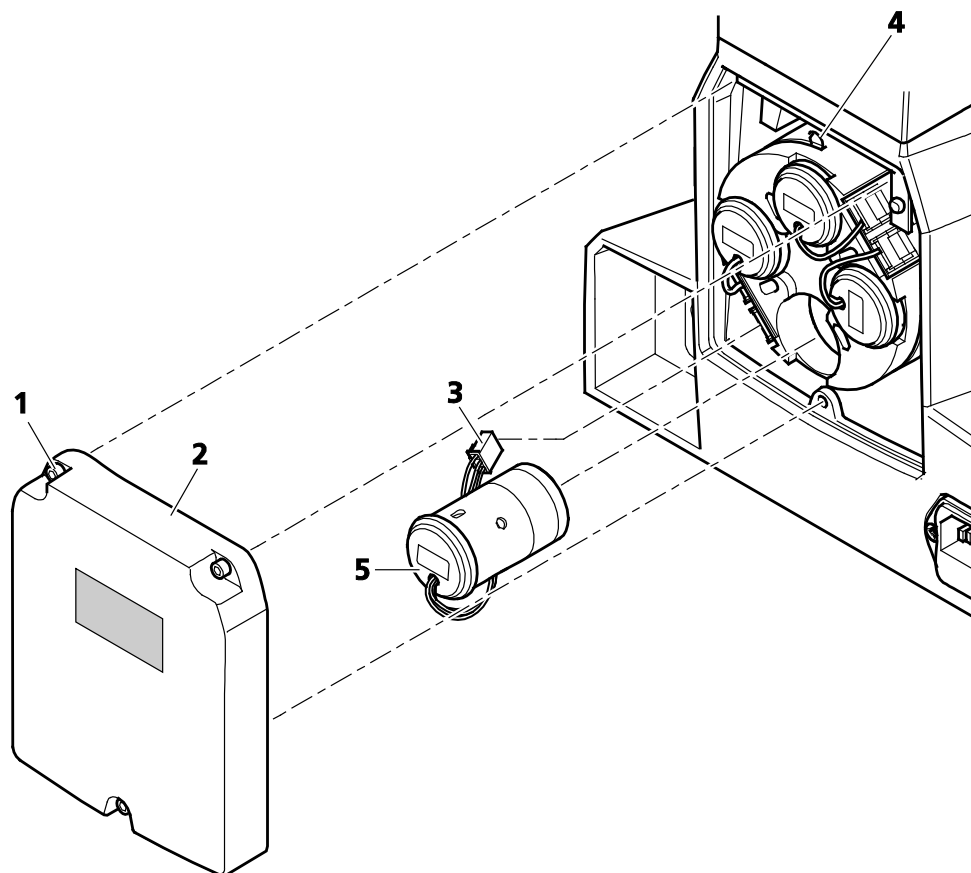

Fig. 3-35 Changing the LED Module in the Axio Vert.A1 FL-LED Stand
- Use ball-headed screwdriver SW 3 to loosen the three screws (Fig. 3-35/1) on the protective cover (Fig. 3-35/2). Take off the cover.
- Press the locking lever on the plug and pull out of the socket the plug (Fig. 3-35/3) of the LED module (Fig. 3-35/5) to be changed. Push the clamping strap (Fig. 3-35/4) of the module mount outward and pull out the LED module.